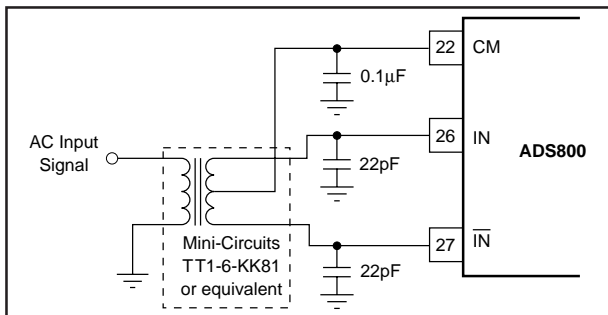

FIGURE 5. AC-Coupled Single-Ended to Differential Drive Circuit Using a Transformer.
The ADS800 has a differential input with a common-mode of +2.25V. For AC-coupled applications, the simplest way to create this differential input is to drive the primary winding of a transformer with a single-ended input. A differential output is created on the secondary if the center tap is tied to the common-mode voltage of +2.25V per Figure 5. This transformer-coupled input arrangement provides good high frequency AC performance. It is important to select a transformer that gives low distortion and does not exhibit core saturation at full scale voltage levels. Since the transformer does not appreciably load the ladder, there is no need to buffer the common-mode (CM) output in this instance. In general, it is advisable to keep the current draw from the CM output pin below 0.5μA to avoid nonlinearity in the internal reference ladder. A FET input operational amplifier such as the OPA130 can provide a buffered reference for driving external circuitry. The analog IN and  $\overline{\text{IN}}$  inputs should be bypassed with 22pF capacitors to minimize track/hold glitches and to improve high input frequency performance.